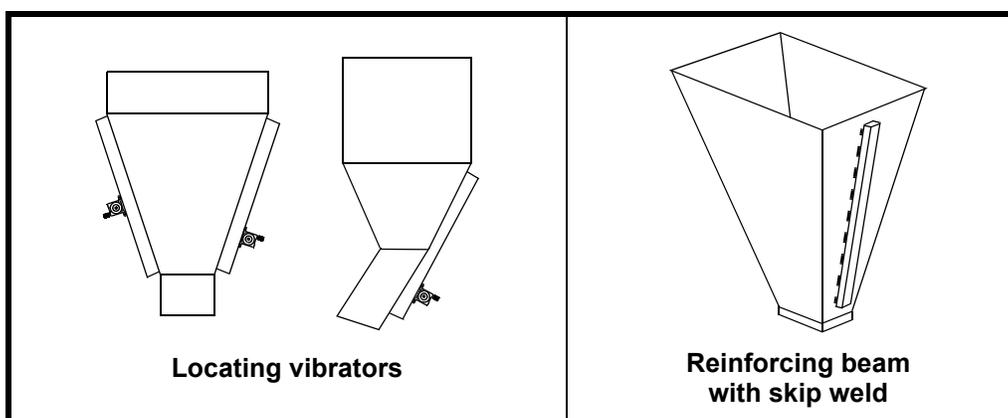

Figure 1. Locating Vibrators and Reinforcing Beams on Hoppers
3. See Figure 1. Locate vibrator in lower 1/4 to 1/3 of structure slope length. If second vibrator is needed, mount 180 degrees from first vibrator and halfway up slope.
4. Install reinforcing beam to strengthen chute wall (see Figure 1). Skip weld beam in place: Weld 3 in. (76 mm) then skip 2 in. (51 mm). Repeat for entire perimeter of beam. Do not weld last 1 in. (25 mm) of either end of beam or any corner. Make sure beam extends at least 3/4 the length of structure from top to bottom.